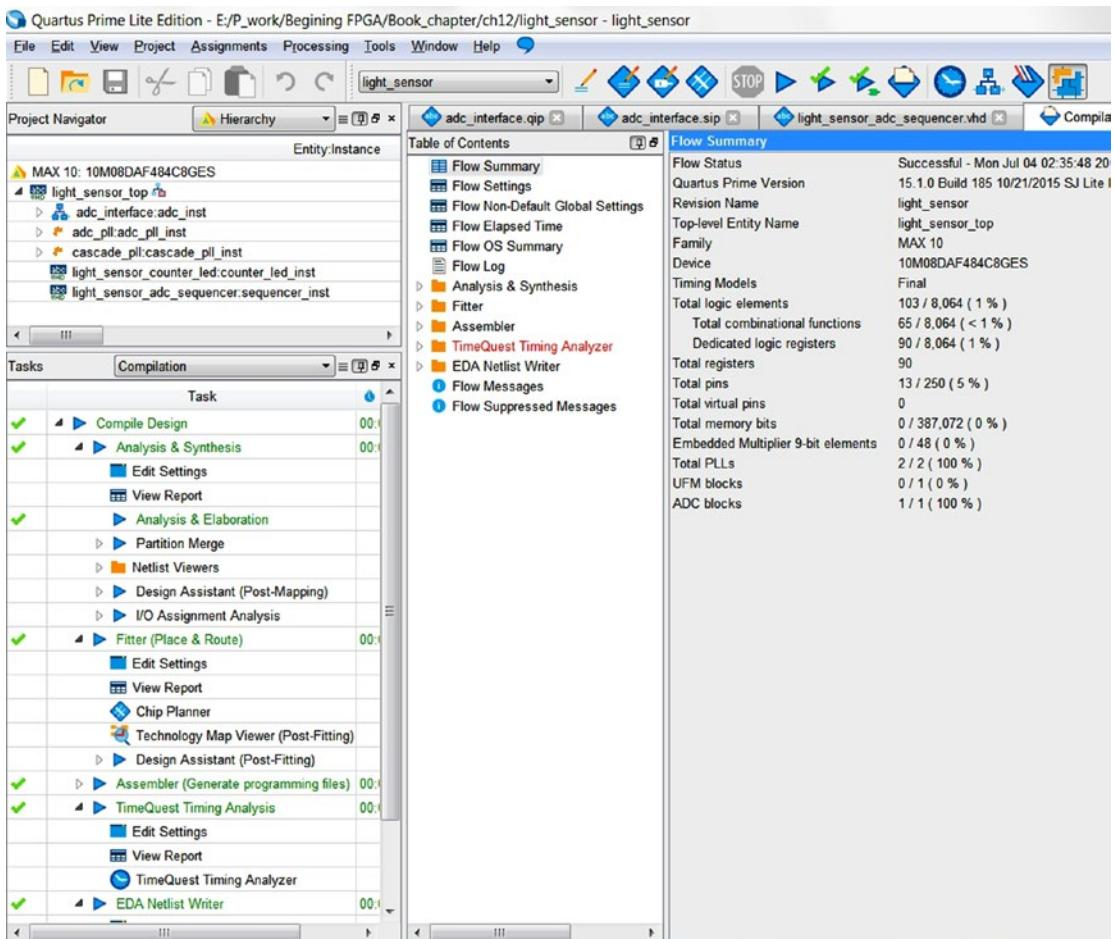

Figure 12-38. Compilation result
Step 5: Click the or select **Start Compilation** from the **Processing** menu. You should see Figure 12-38 as your result. In the Task window (lower left), it should have all green checks, a 100% progress bar, and no red errors in the Message window. At this point, you are ready to upload the design to the MAX10 FPGA.
Now you have all of the files in the project and you can start simulating the design one block at a time. You need to make sure the project is compiled and the Project Navigator shows the Hierarchy as in Figure 12-38 before you move to the simulation section.